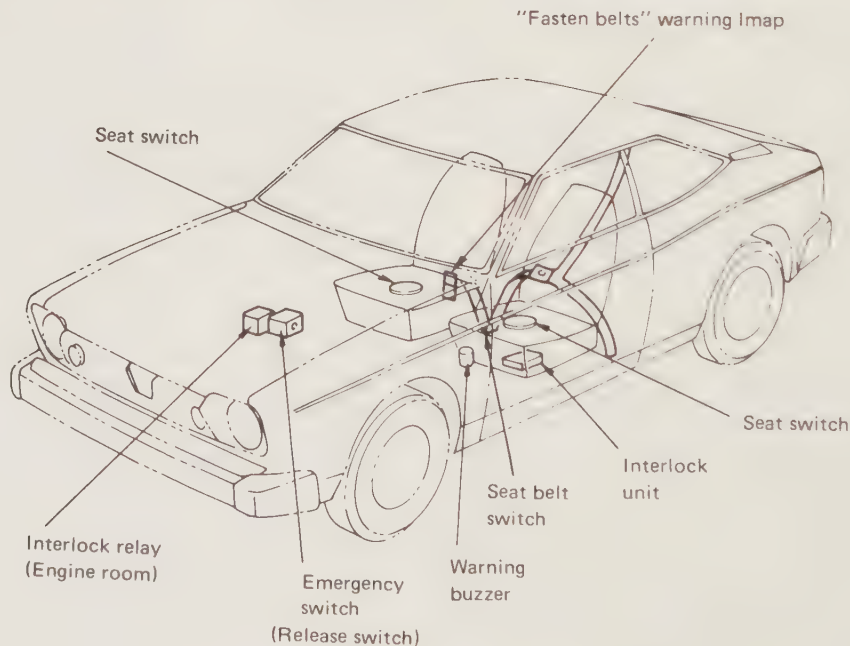

Fig. 10.41. Seat belt interlock system - 1974 models
- 1 The seat belt/ignition interlock system comprises the following components: an interlock unit located under the driver's seat, two front seat switches, two seat belt buckle switches, a starter relay, a by-pass switch, a warning buzzer and a warning light. The location of the different components are shown in Fig. 10.41.